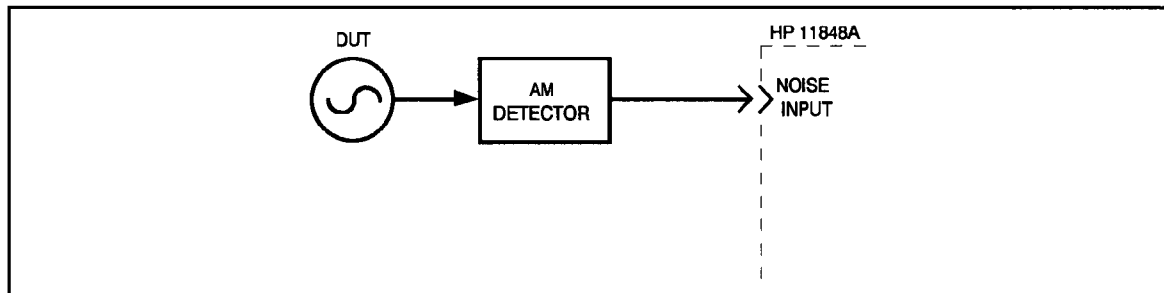

Figure 3-3. AM Noise Measurement Setup
1. Connect circuit as shown in figure 3-3, and tighten all connections.